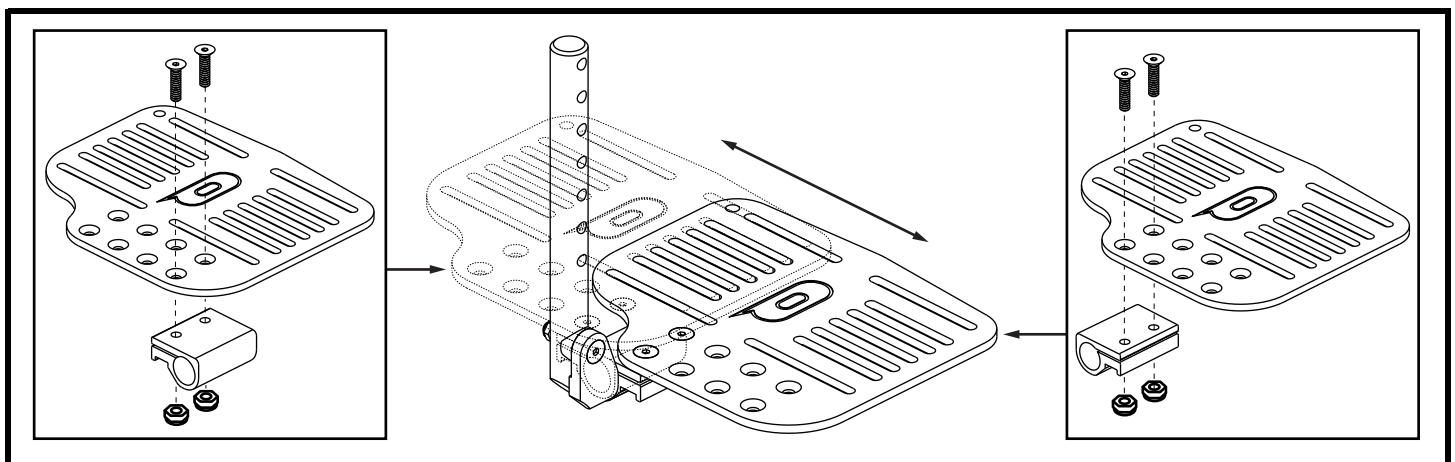

Figure 31. Foot Plate Depth Adjustment
1. Remove the screws and nuts from the foot plate assembly. See figure 31.
3. Reposition the foot plate on the foot plate adapter to achieve the desired depth. See figure 31.